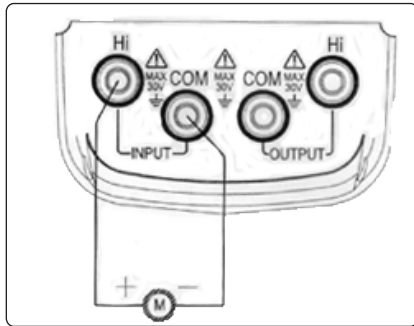

Figure 6-1
1. Insert the testing probe into the jack of the meter's input terminal (INPUT). and connect the other end with output terminal of the Users' meter, see Figure 6-1: